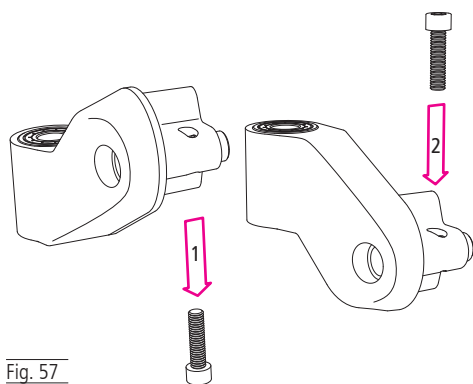

Fig. 57
4. Now unscrew the angle adjustment screw completely (1, Fig. 57) and reinsert it in the opposite direction (2, Fig. 57).